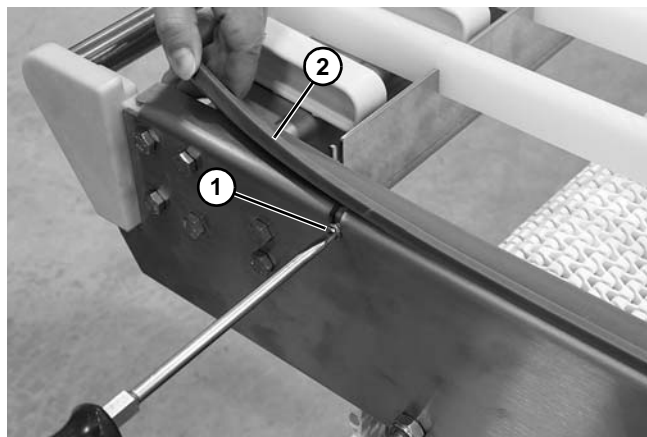

Figure 45
1. Remove two self-tapping screws (Figure 45, item 1) retaining the wear strip to the frame.
2. Remove the wear strip (Figure 45, item 2) from the frame rail.